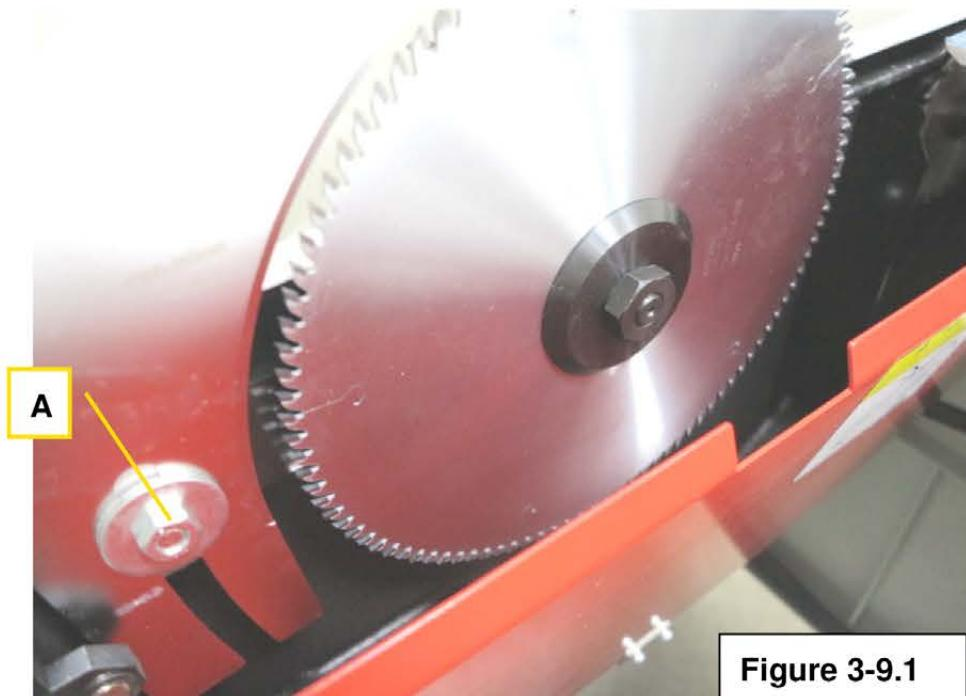

Figure 3-9.1
1. Loosen nut **A** (Fig. 3-9.1) insert the riving knife with a wrench without complete tightening it.
3. Tighten the nut **A** to secure the riving knife in the position. (Fig. 3-9.1)